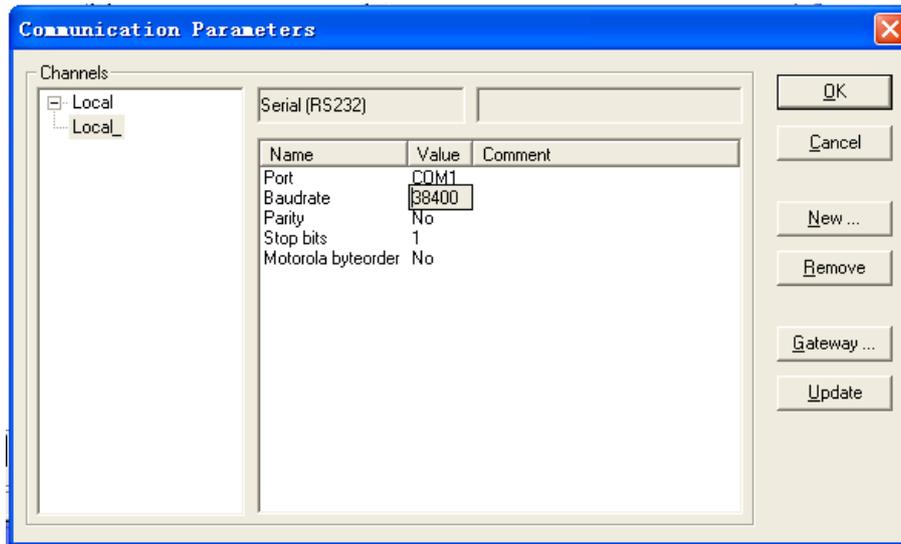

Figure 3-5-3 Baud-rate setting
- The default name of the channel is "Local_" and the default communication protocol is RS232. Return to dialog of communication parameters by clicking "OK", as shown in figure 3-5-3. Click "OK" and the connection between the PC and the CPU module is completed.